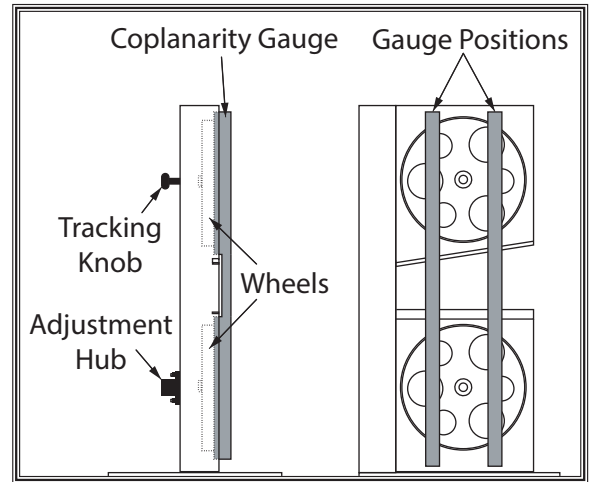

Figure 100. Illustration of using coplanarity gauge to check wheel alignment.
- Place coplanarity gauge up against both wheels in positions shown in **Figure 100**. Make sure gauge fully extends across rims of both wheels.